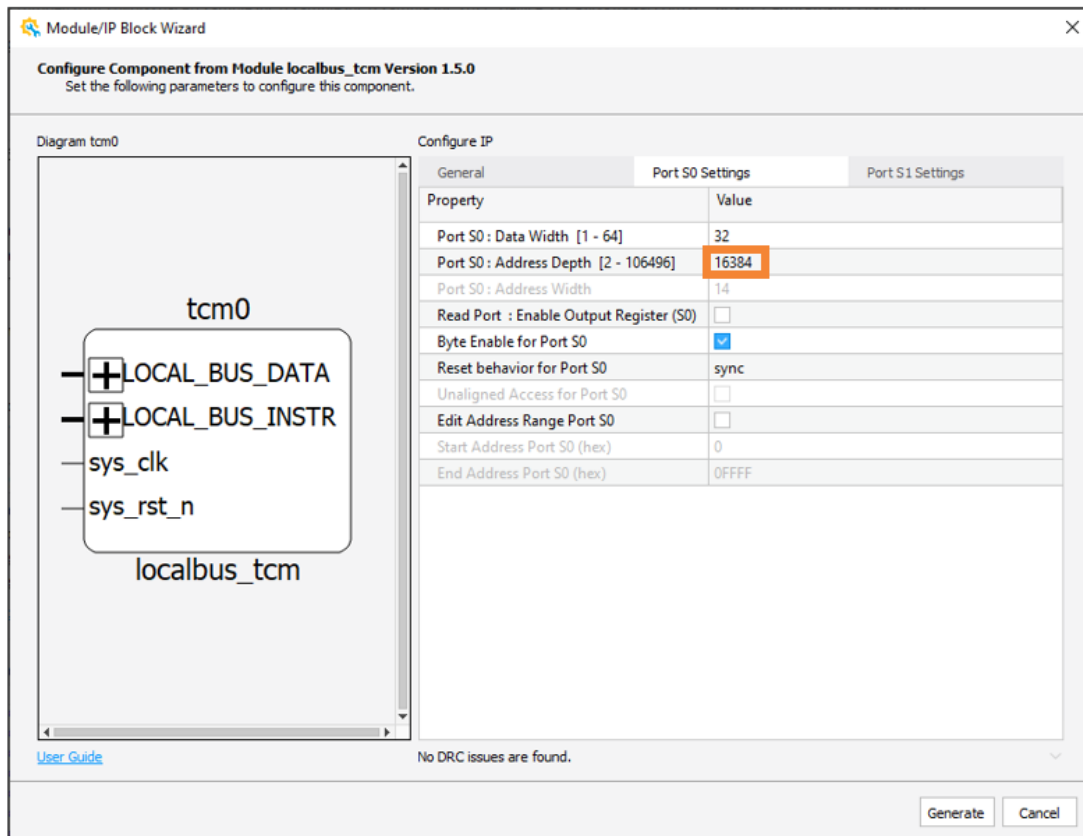
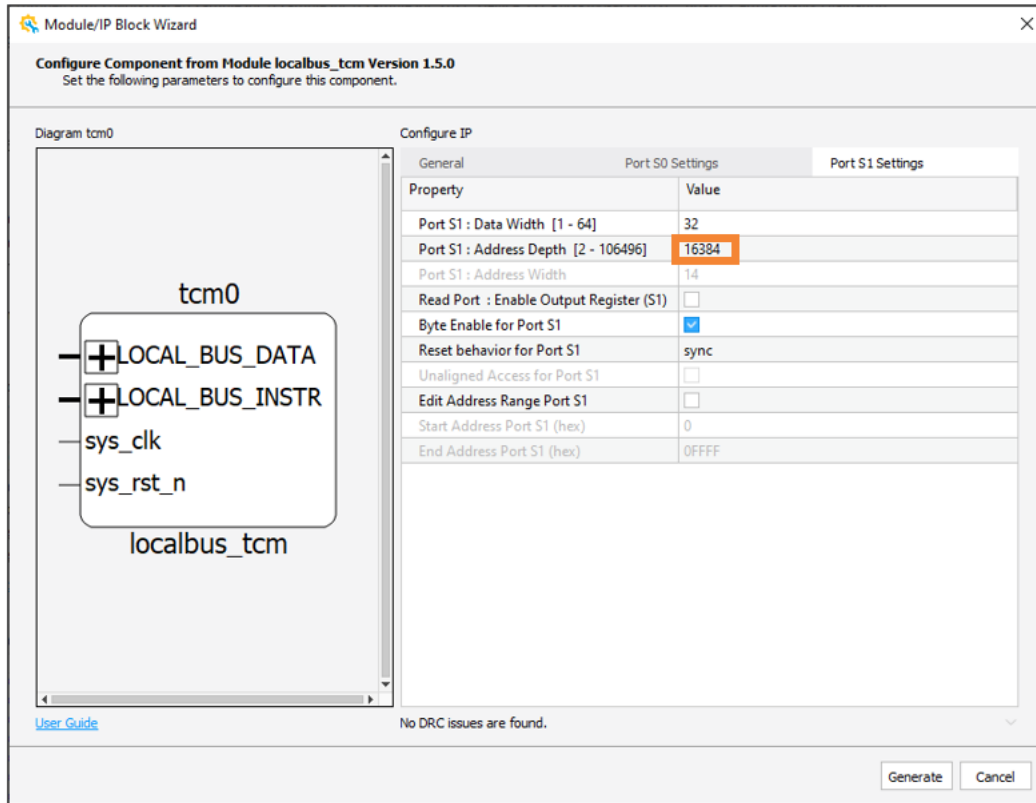

Figure A.9. tcm0_inst Port S0 Address Depth Settings
Figure A.10. tcm0_inst Port S1 Address Depth Settings
2. Double-click the tcm0_inst IP. The Port S0 address depth settings and the Port S1 address depth settings are shown in the Module/Block IP Wizard GUI (Figure A.9 and Figure A.10).